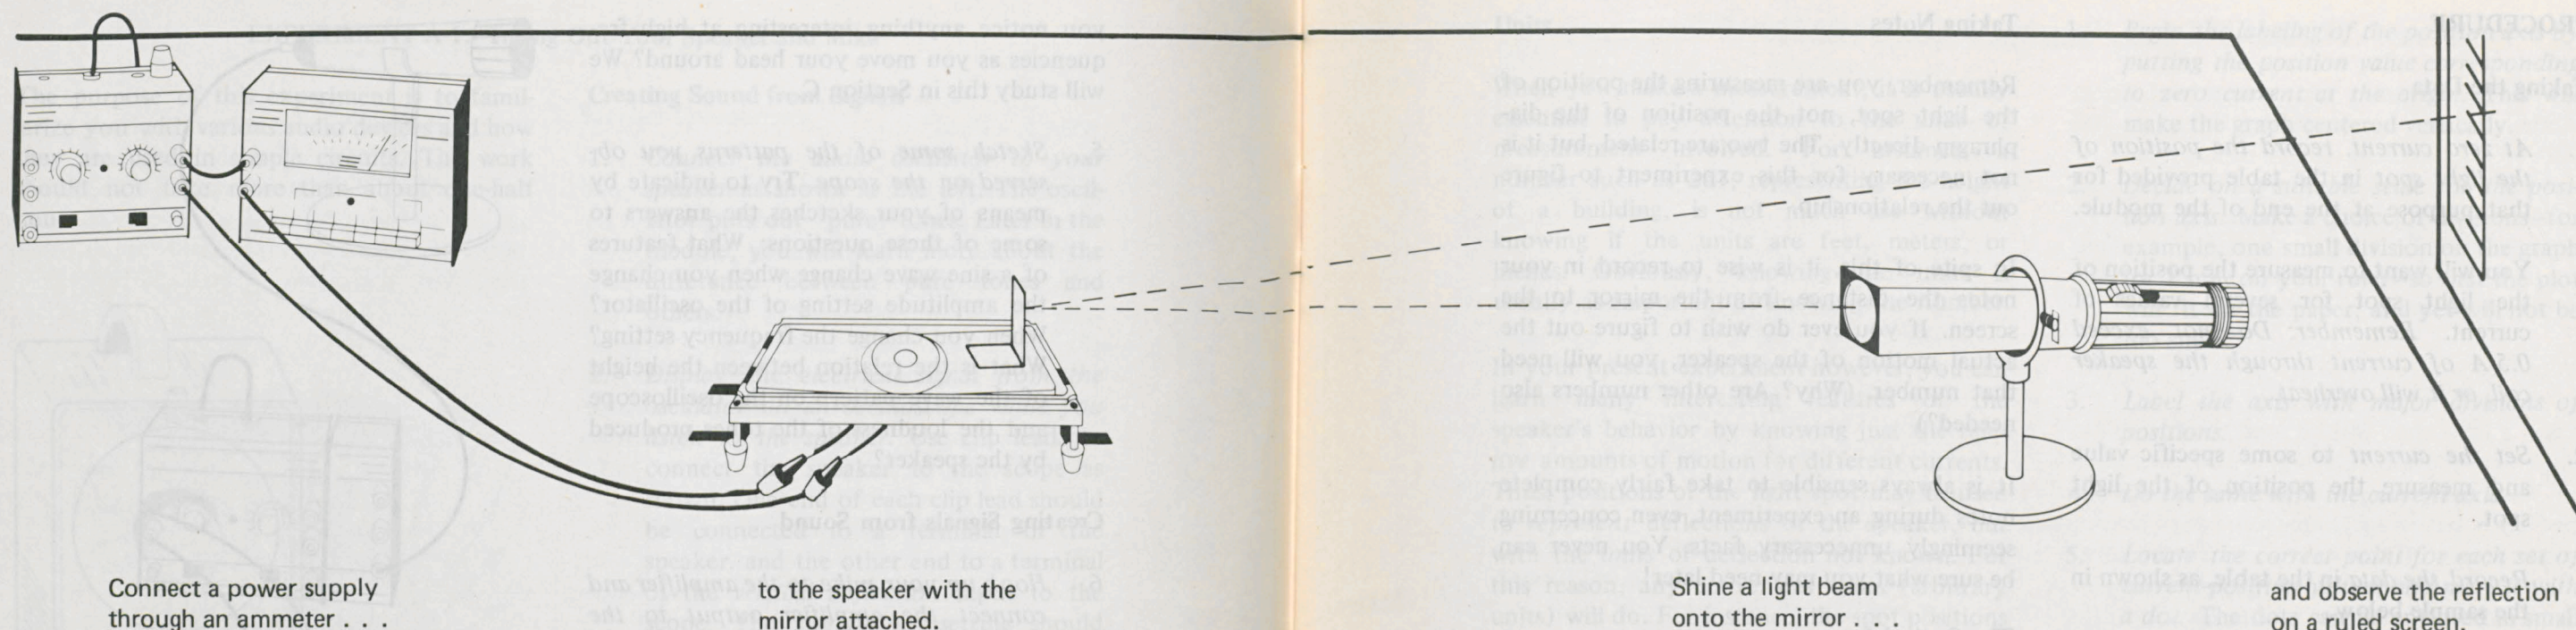

Figure 16.
1. Hook up the circuit shown in Figure 16, using clip leads. Adjust the supply voltage until a current between 0 and about 0.5 A registers on the ammeter.